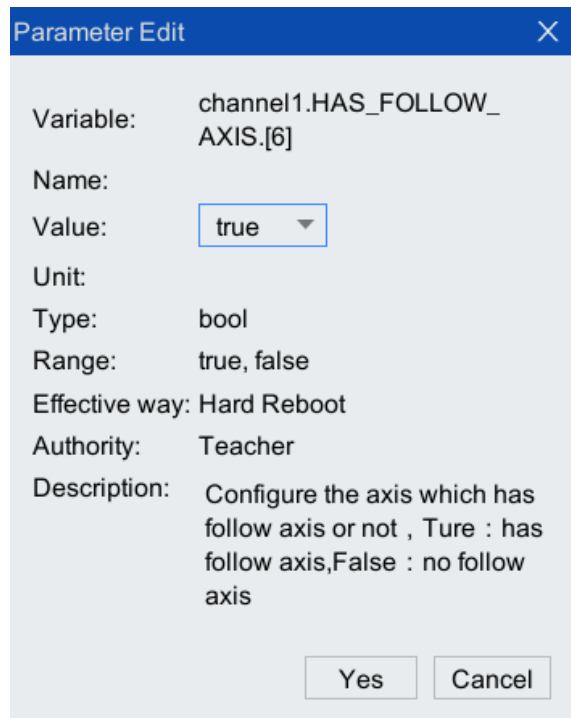

Figure 10-21 Following axis configuration interface
Step5.In the [Channel] configuration interface, click to select the [+] in front of [HAS\_FOLLOW\_AXIS (whether there is a follow axis)], and click to select the row of [6] (representing the 7th axis as the main axis) in the expanded sub-items. Configure [Value] to be "true", as shown in Figure 10-21. Click <Yes> to complete the configuration.